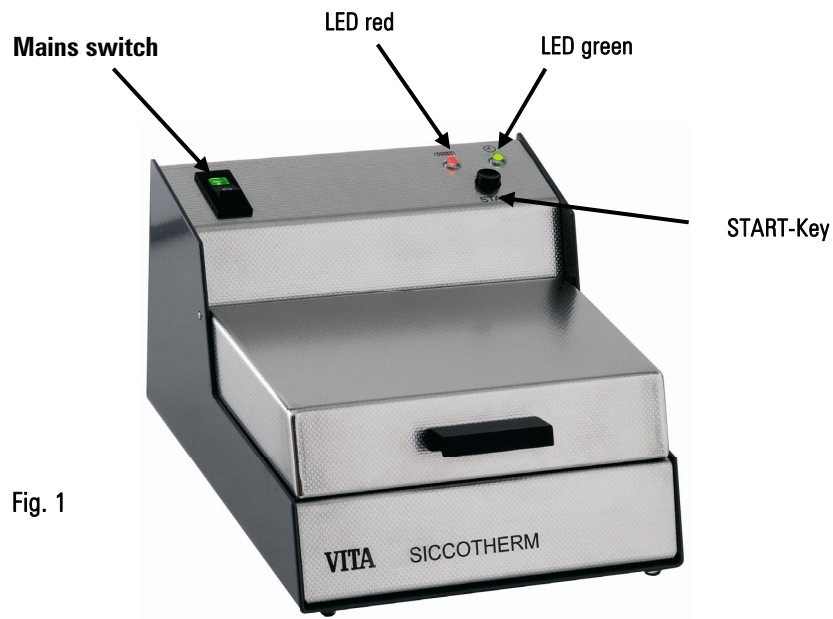

Fig. 1
- Switch on the unit at the mains switch (fig.1),